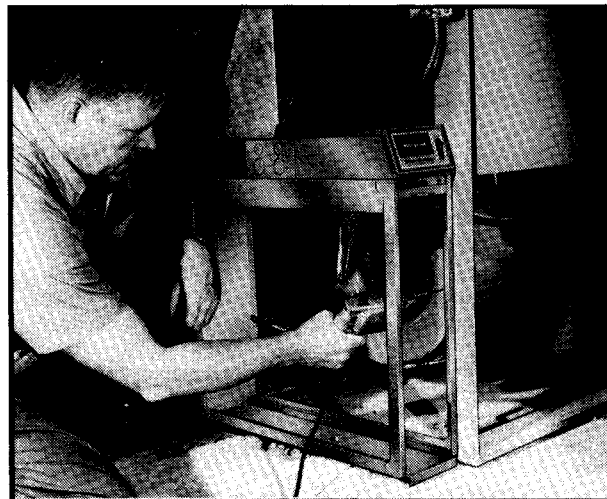

FIG. 23—FASTEN CABINET TO FURNACE.
- ☐ Attach the cabinet securely to the furnace. The unit can be attached directly, as shown, or a starting collar can first be fitted in the furnace opening. Either drill holes and fasten with sheetmetal screws or rivets, or use slip joints. If you will be drilling holes, locking pliers will help to hold the unit in place during drilling. See Figure 23.